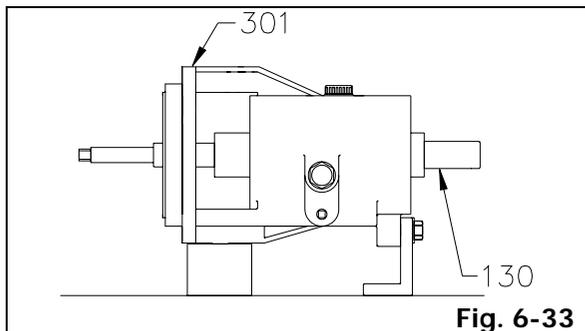

Fig. 6-33
5. Coat all internal surfaces of bearing bracket (301) or bearing frame (300) with oil.
6. Install shaft assembly into bearing bracket (301) or bearing frame (300) in drive end to pump end direction by tapping with a piece of tubing placed against the inner race of drive end bearing (310 for KS-SR or 312 for KS-SG). Insert shaft assembly until the distance between bearing cover gasket (430) seat surface and drive end bearing (310 for KS-SR or 312 for KS-SG) surface is about 5mm. Check shaft (130) for free turning (Fig. 6-33).